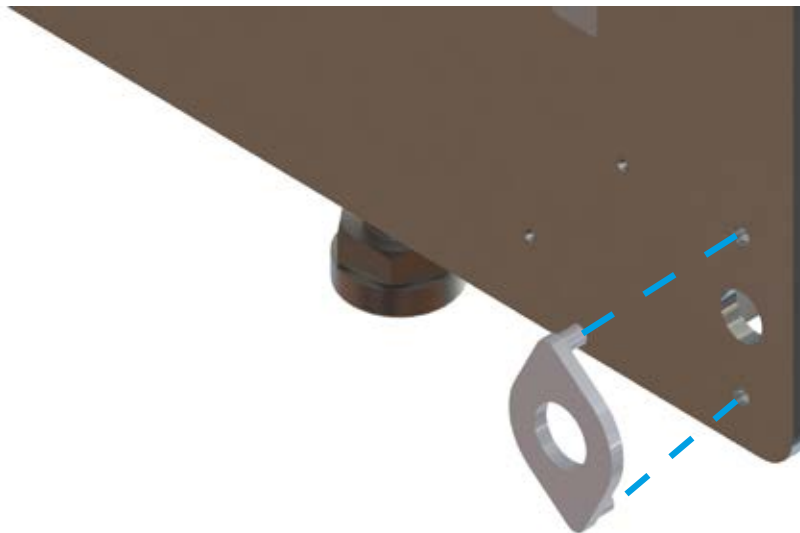

Figure 10.
11. If using an aluminium framed door/s, install the spacers onto the rollers as guided in **Figure 10**, if not skip this step.